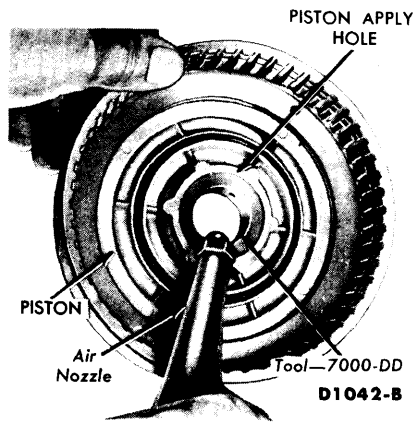

FIG. 32—Front Clutch Piston Removal
6. Install the special nozzle shown in Fig. 32 on an air hose. Place the nozzle against the clutch apply hole